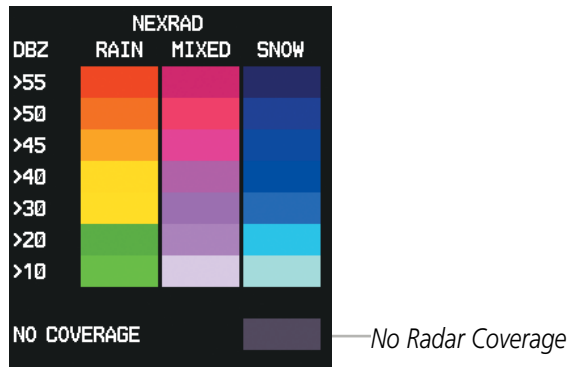

Figure 6-11 NEXRAD Data with Legend
(XM) Page. For the NEXRAD legend (Figure 6-11), press the **LEGEND** Softkey when NEXRAD is selected for display.